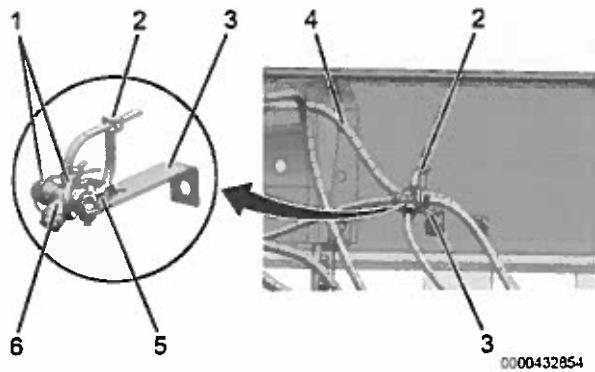

Figure 2. Cable Strap Configuration
8. Install new extension clip (Figure 2, Item 3) to frame rail using previously removed fasteners and tighten.
9. Place two thin cable tie straps (Figure 2, Item 1) around each end of T-fitting (Figure 2, Item 6).
10. Insert wide cable tie strap (Figure 2, Item 2) through 2-way hose and cable guide (Figure 2, Item 5), extension clip (Figure 2, Item 3), T-fitting cable tie straps, and around airline along frame rail (Figure 2, Item 4).